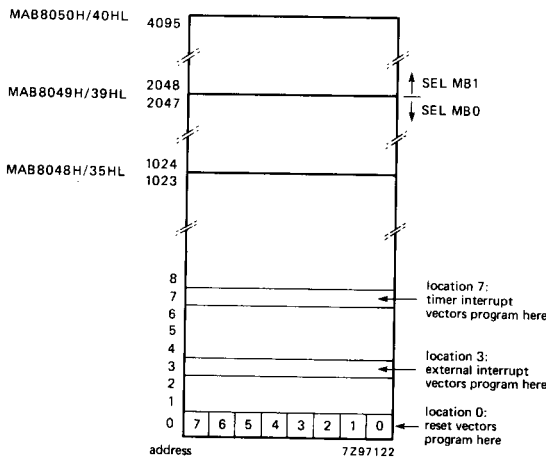

Fig. 3 Program memory map.
**Program memory** (see Fig. 3)